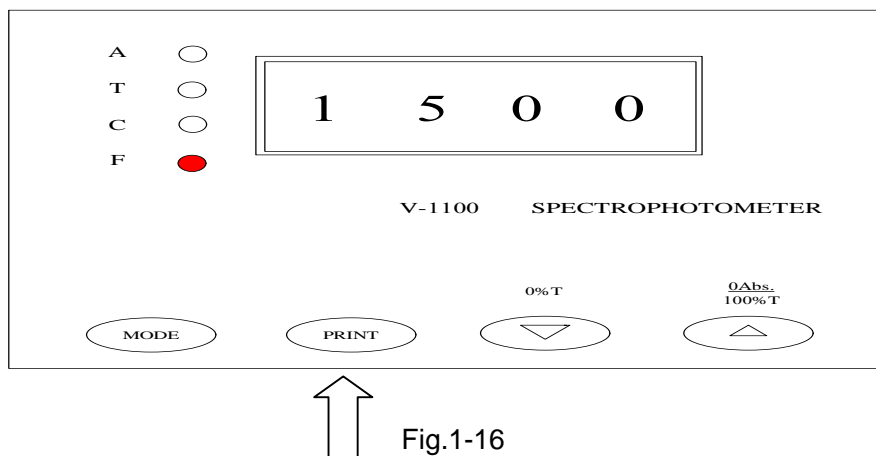

Fig.1-16
- c. Press the **PRINT** key, and the current F value shows 1500 (Fig.1-16). Then C mode automatically appears. Suppose the A value measures 0.234, then the C value reads 0.351.